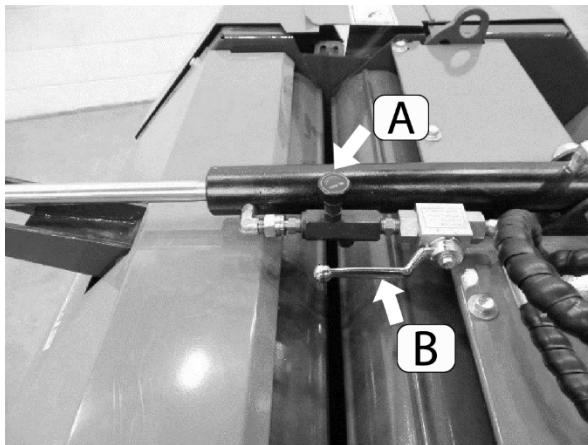

Figure 31
- The opening and closing action of the tailgate can be slowed down or sped up to suit your preference by adjusting the position of the flow control valve (Figure 31, A).
- Hydraulic flow can be stopped for maintenance or other purposes by turning the stop valve (B) upward so that it is perpendicular to the cylinder.